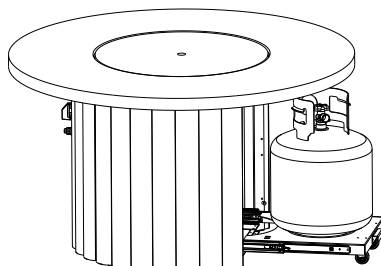

Figure E.2
2. Set 20 lb. liquid propane tank in tray and ensure it is fully seated in the tray. See Figure E.2.